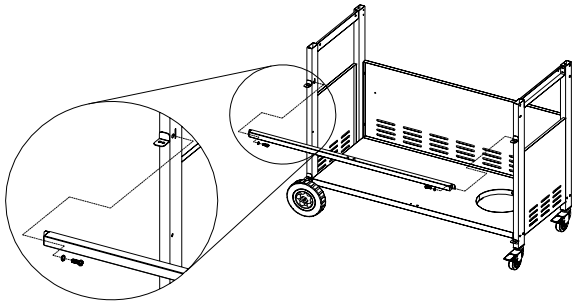

Figure 5
1. Attach the front cart frame beam to the grill cart using (2) $\frac{1}{4} \times \frac{3}{5}$ " Phillips head screw and (2) $\frac{1}{4}$ " lock washers. (Fig.5)